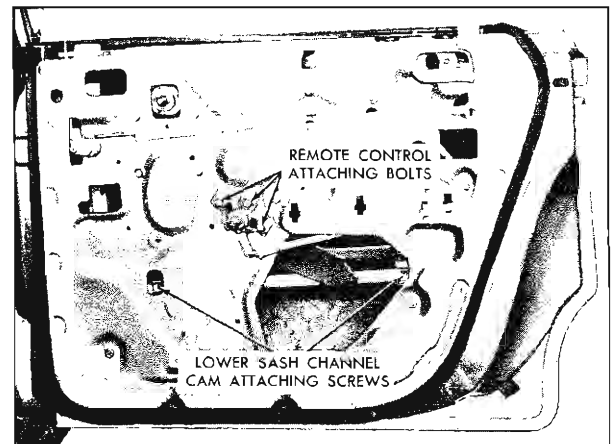

Fig. 3-47 Sash Channel Cam
2. Lower door window sufficiently to gain access to lower sash channel cam attaching screws through access holes in door inner panel and remove screws (Fig. 3-47).
2. Remove rear cam upper attaching screws and lower adjusting stud and nut (Fig. 3-47).
3. Lower door window and remove lower sash channel cam attaching screws (Fig. 3-47).